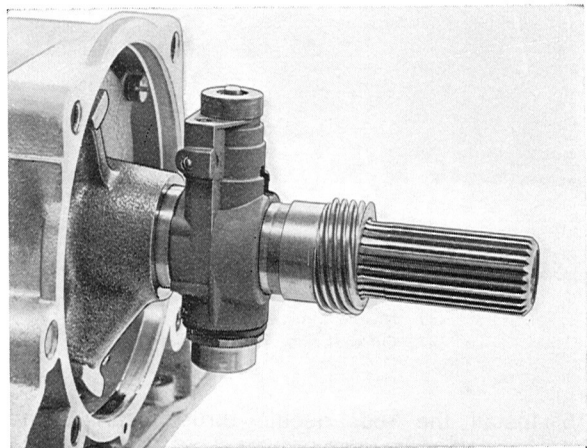

Fig. 4-124. Speedometer gear installation
21. Place the speedometer gear correctly on the driven shaft as shown in Fig. 4-124. Install the extension housing with a new gasket and install the drive flange with washer and nut.